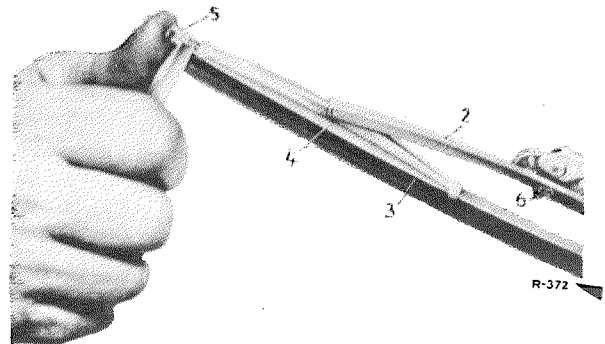

Fig. 82 — 8/2
3. Pull the rubber molding (3), together with the retaining springs, out of the anchorage of the wiper blade and take out the retaining springs (see Fig 82 — 8/2).